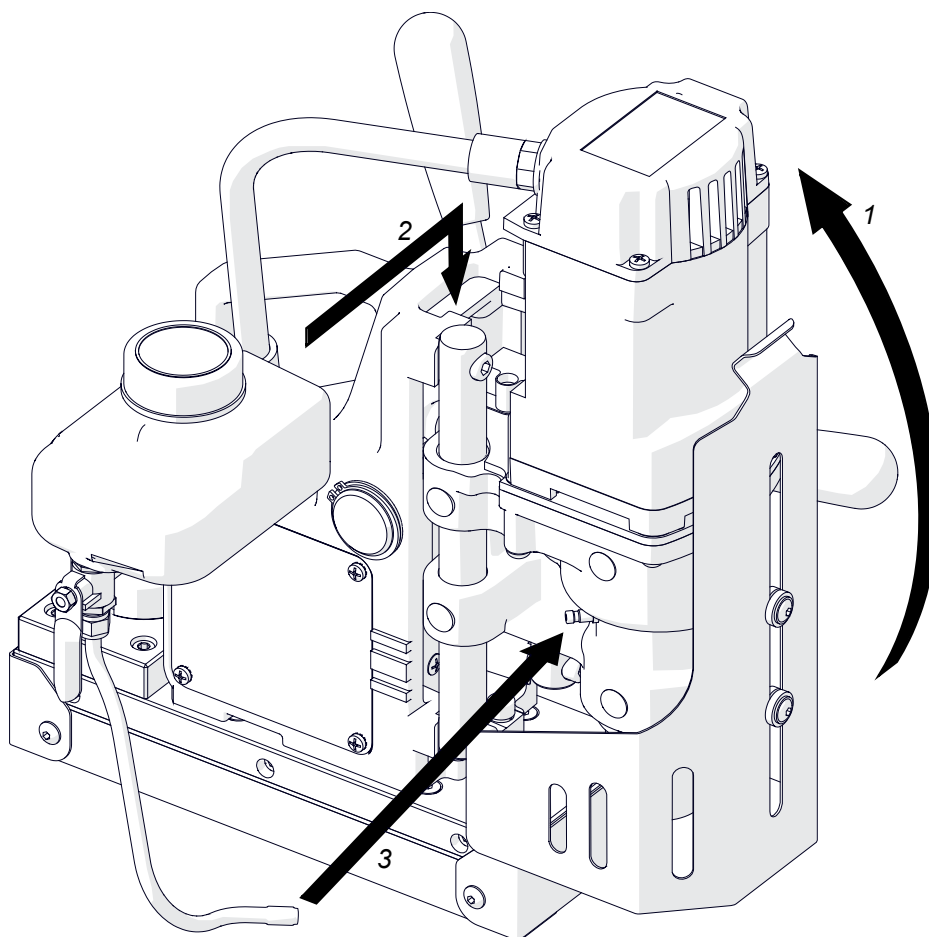

Fig. 4. Installing the cooling system bottle
Rotate the handles (1, Fig. 4) to raise the motor. Next, place the cooling system bottle on the machine (2), and then attach the bottle hose to the hose fitting (3).